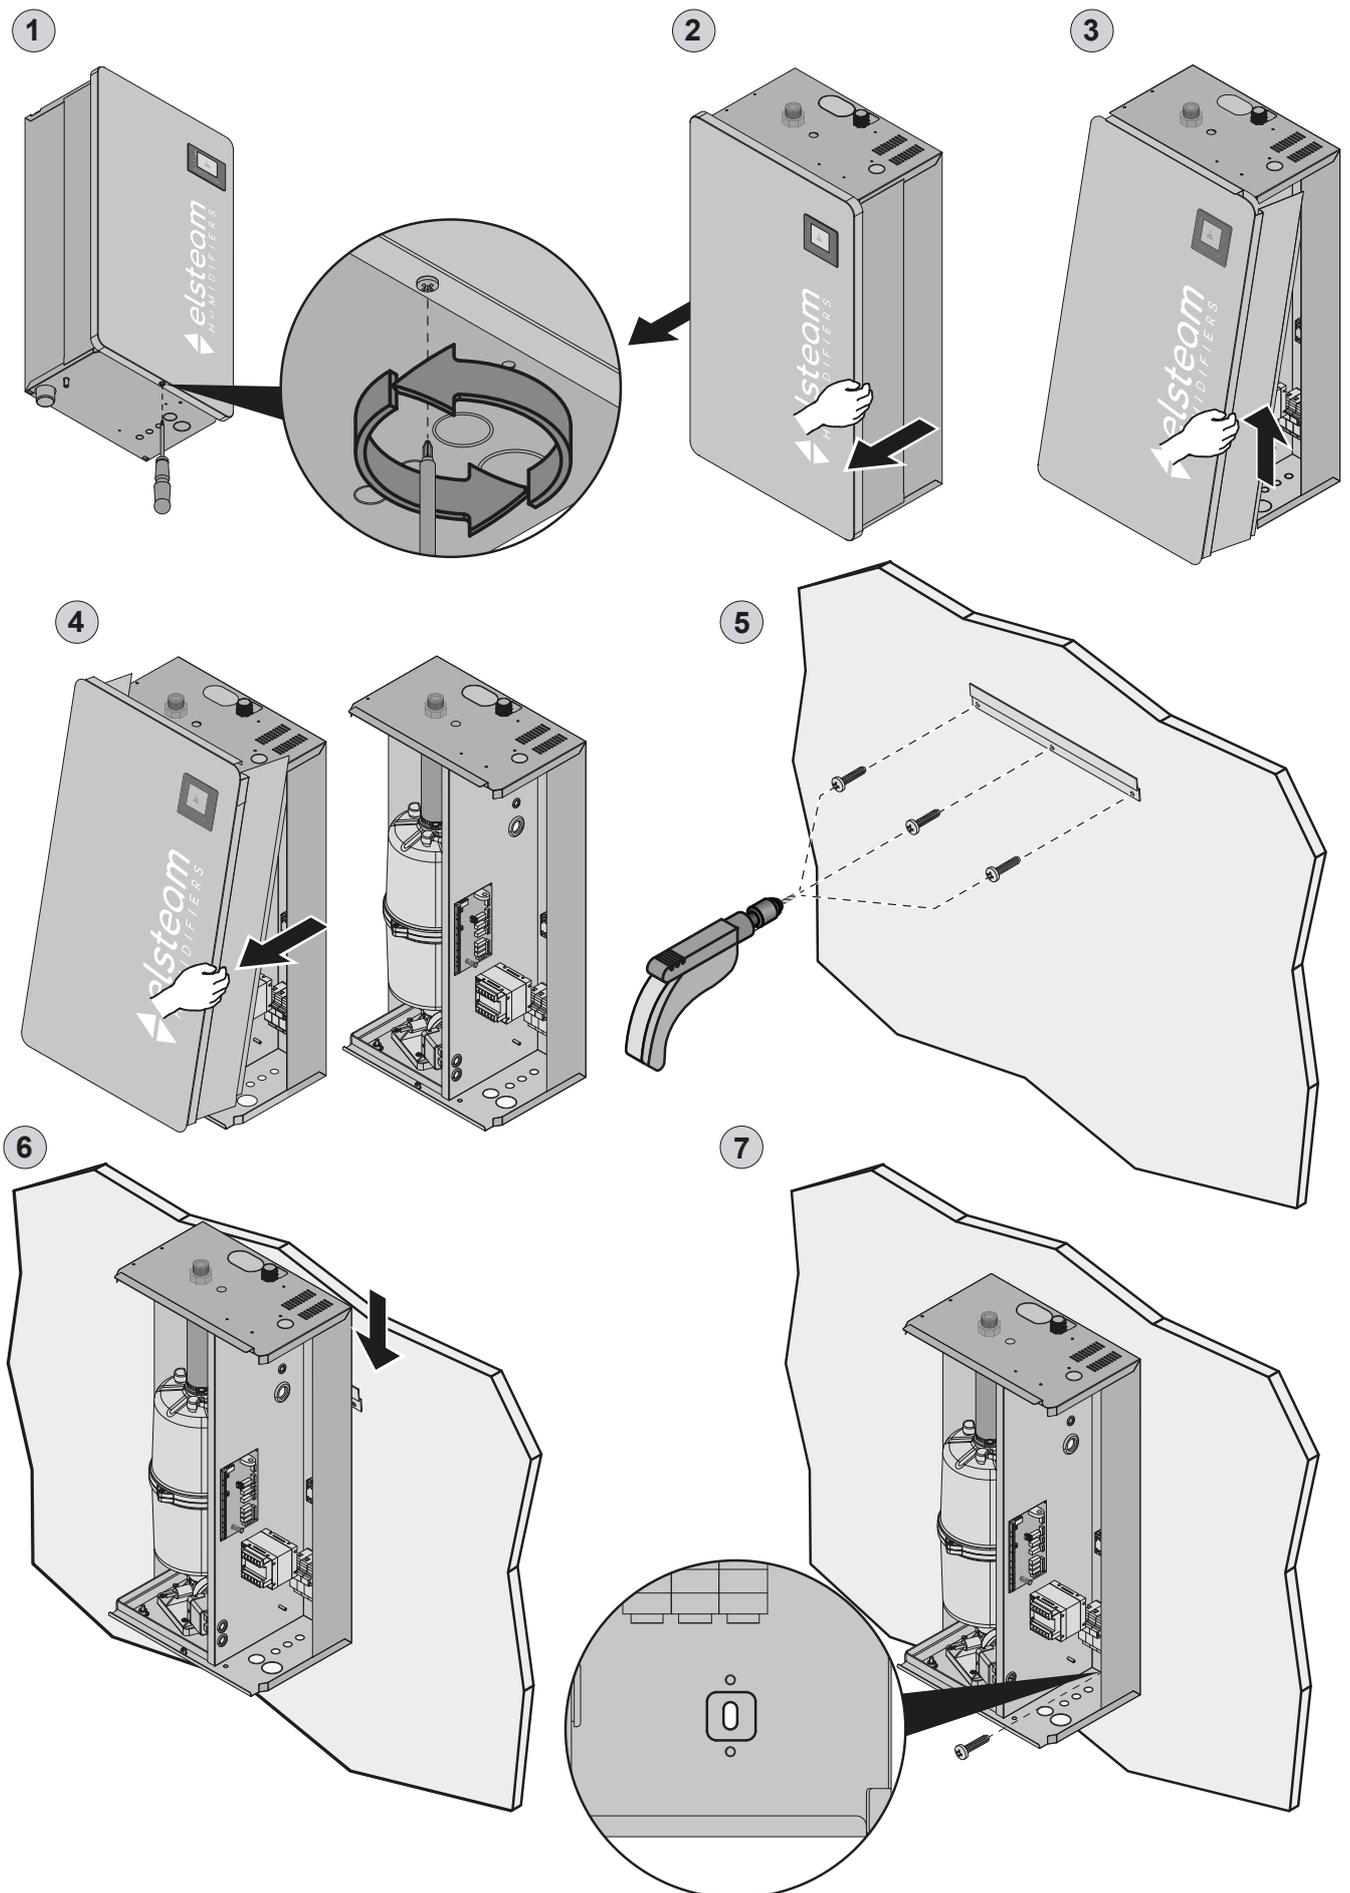

Fig. 9. Installation instructions
- Remove the front wall by pulling it towards you and lifting it (see **"FIG. 9. INSTALLATION INSTRUCTIONS" ON PAGE 25**);